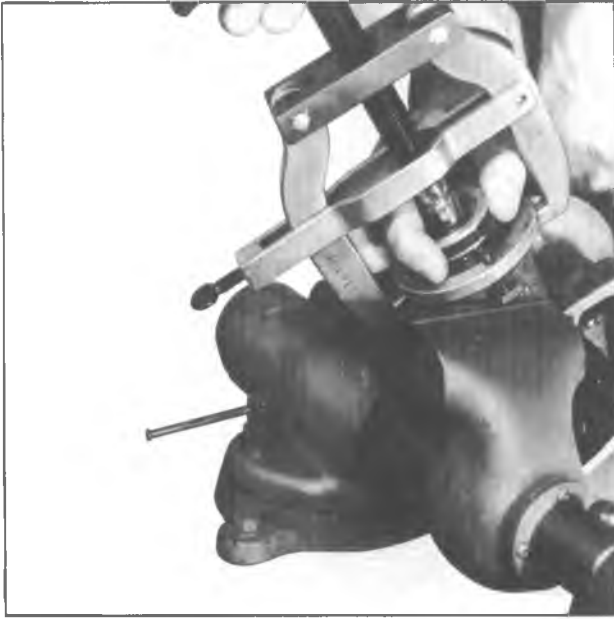

Figure 32—Piston Replacing Tool J-8107
5. Unscrew Tool (J-8107) until compression spring tension is relieved and remove Tool (fig. 32).
4. Install piston and washer on push rod and torque self-locking nut to 135 inch-pounds. Install push rod, spring, and piston into cylinder bore using 9/16" socket on piston self-locking nut and Tool (J-8107) clamp to push piston into bore. Care must be taken to ensure proper fit of felt wipers and O-ring on piston (fig. 32).